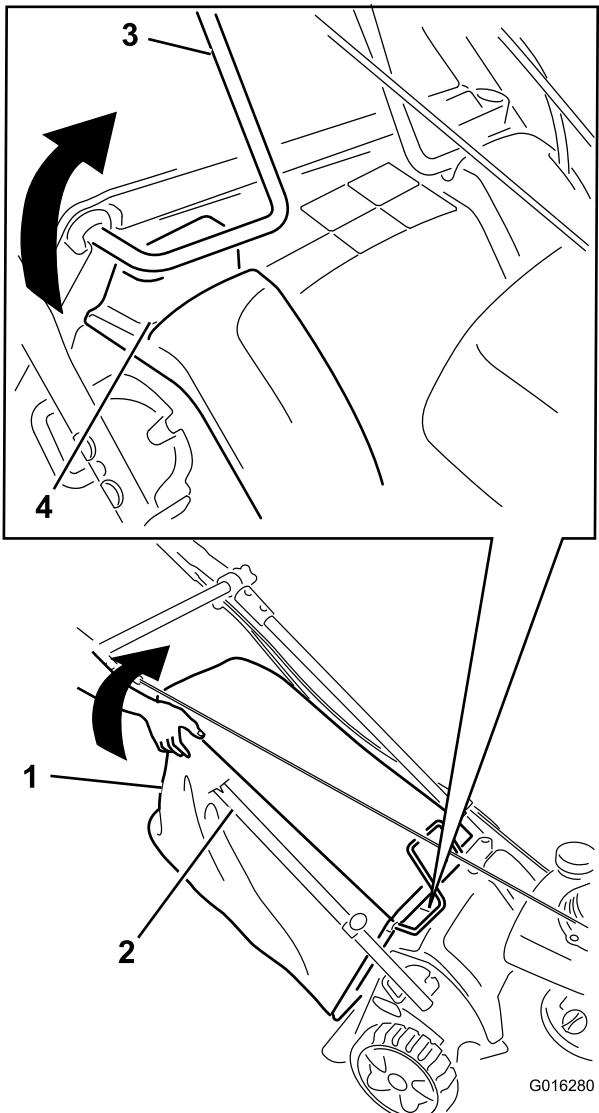

Figure 60
- While the engine is running, lift up the upper right rear corner of the grass bag until the wire-bag frame at the upper right front of the grass bag is completely out of the right-hand slot (Figure 60). **The engine should stop.**